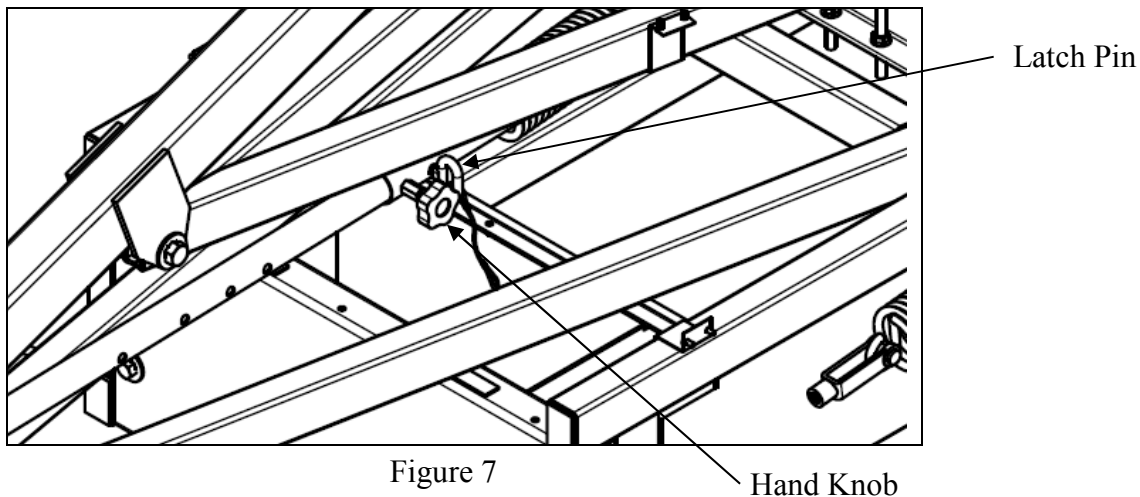

Figure 7
9. Push the unit to the playing location on the court. The unit should be centered on the centerline of the court as shown in figure 7. From the inside edge of the court baseline to the front of the frame cross tube should be about 1'-2 1/2".
11. Remove the latch pin from the sliding latch bar, loosen the hand knob and raise the boom to the 10' -0" playing position. Insert the safety pin into the sliding latch bar at the center of the unit (figure 7).